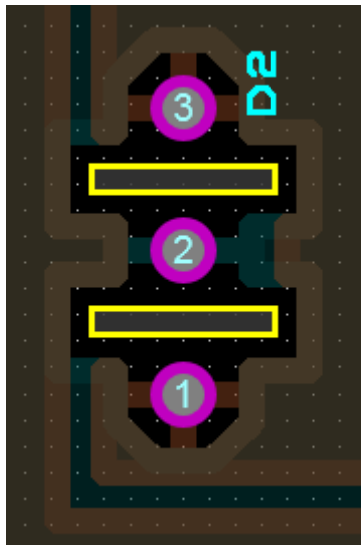

Figure 3 Example of thermal relief "spokes" to TO-247 leads, with slots between leads to increase creepage distance
- Use thermal relief patterns on circuit board pads, which are “spokes” that connect from the plated through-hole to copper pour and internal plane areas. See Figure 3 for an example. Connections to power planes are very common for THT power devices. Eliminating thermal relief patterns in an effort to improve electrical performance makes circuit board assembly impractical and unreliable because too much heat is drawn away during the solder process, forcing far excessive solder time.